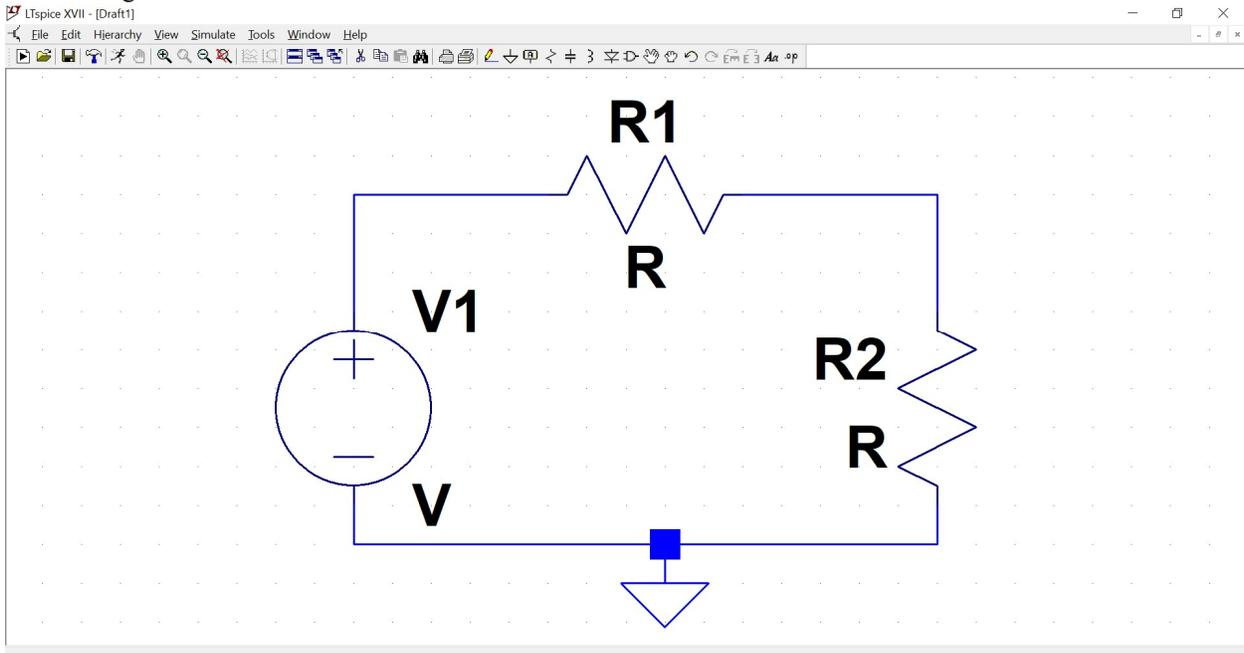

Figure B-3 Completed Circuit (and ground reference)
- We need to add wires connecting the components. Again, select the wire hotkey button, and connect the components to create a voltage divider circuit with a ground reference. Your circuit should look similar to Figure B-3.